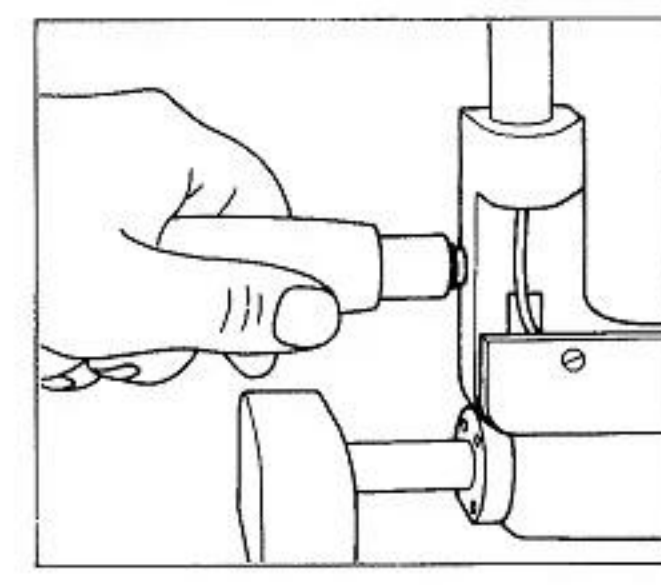

Fig. 13: Attaching Handgrips (option)
- 1) Screw and attach Handgrips to both side of Headrest (Fig. 13).